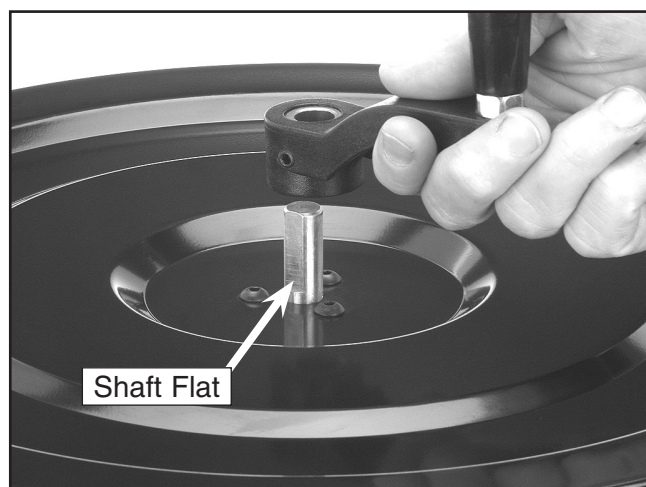

Figure 10. Installing canister handle.
3. Install the handle onto the top of the canister and tighten the set screw against the flat of the shaft (**Figure 10**).